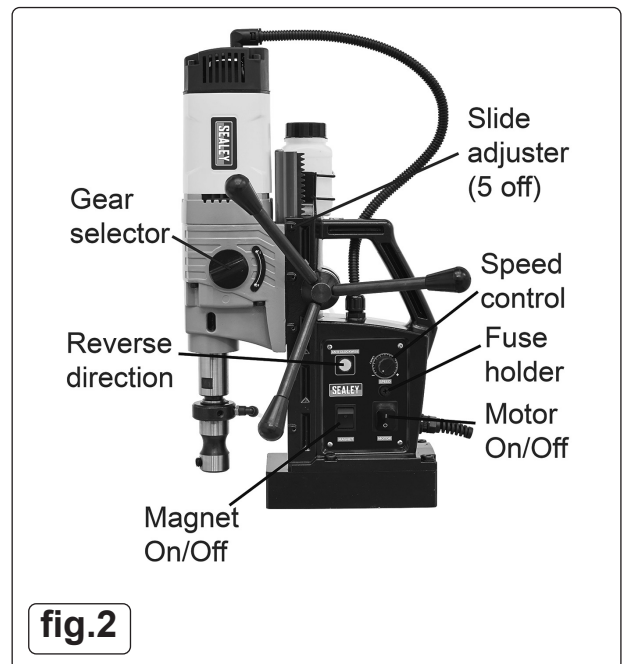

fig.2
- 4.4. **ADJUSTING THE SLIDES** (fig.2)
- 4.5. **REPLACING THE FUSE** (fig.2)
- 5.2.1. Loosen clamps (fig.2) and slide drill body to required height on the carriage. Re-tighten when drill body is in position.
- 5.4. **SELECTING GEAR** (fig.2)
- 5.4.2. Use knob (fig.2) to select required gear setting for the operation to be carried out. Rotate the spindle by hand to help line up of gears.
5.8.2. Back the cutting head away from the workpiece, turn the drill motor on (fig.2). Check the drill sounds and is operating normally.
5.8.3. Turn the handle (fig.2) anticlockwise to move the cutting bit towards the workpiece.
5.8.6. Once the hole has been cut, back the cutting head back out of the hole and switch off the motor. Reverse motor direction can be engaged using relevant control (fig.2) if required.